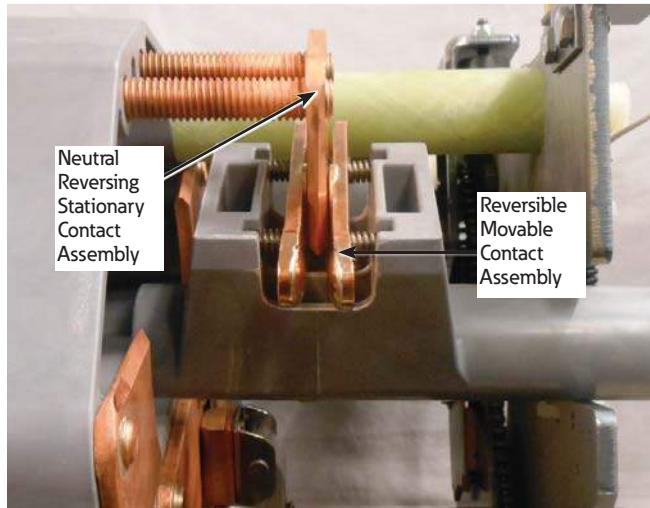

Figure 11. Reversing movable and stationary contacts
11. Pull the reversing movable contact assembly and the reversing neutral stationary contact forward toward the steel front panel as shown in Figure 11.